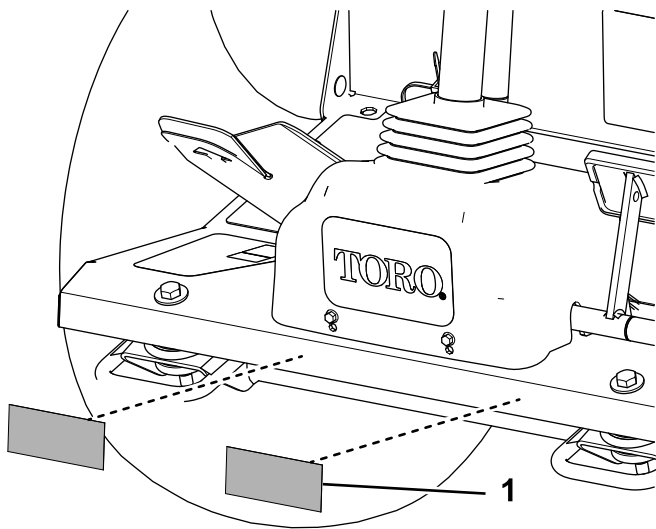

Figure 4
1. Clean the front edge of the platform with alcohol, and allow it to dry (Figure 4).
3. Align the reflector to the bottom edge of the platform as shown in Figure 4, and adhere it to the platform.